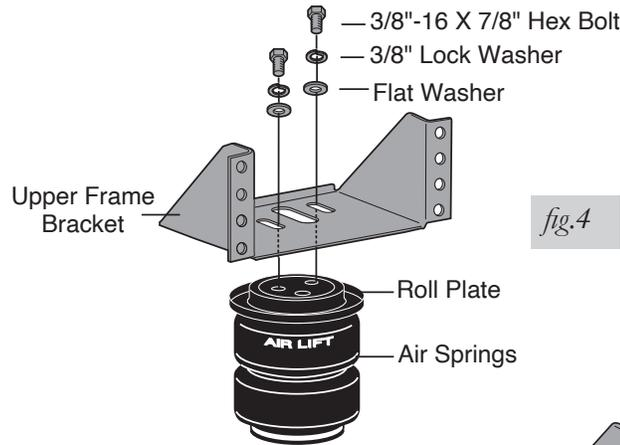

fig. 4
2. Align the holes in the roll plate with the holes in the air spring and loosely attach the upper bracket with the “legs up” using two 3/8"-16 x 7/8" bolts, lock washers, and flat washers (Fig. 4). The upper bracket must be installed in this position.